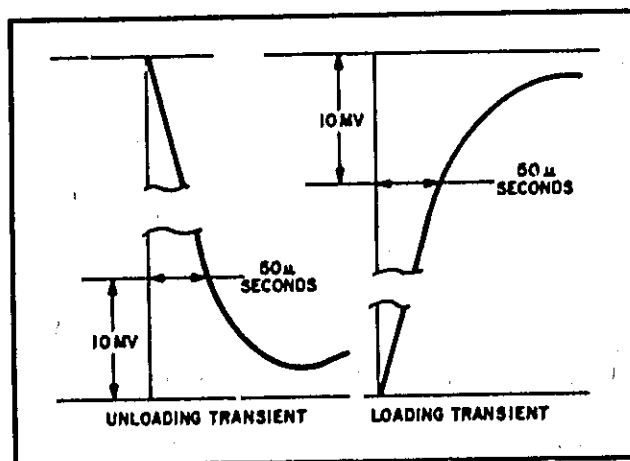

Figure 5-9. Transient Recovery Time, Waveforms
e. Adjust 25K potentiometer until a stable display is obtained on oscilloscope. Waveform should be within the tolerances shown on Figure 5-9 (output should return to within 10mV of original value in less than 50 microseconds).